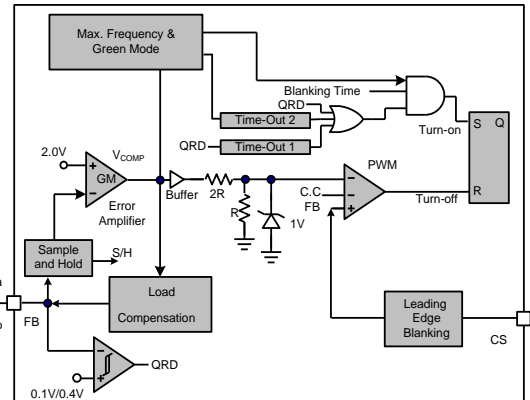

Fig. 20
The LD7513A employs quasi-resonant (QR) switching scheme to switch in valley-mode either in CV or CC operation. This will greatly reduce the switching loss and the ratio dv/dt in the entire operating range for the power supply. Fig. 20 shows the typical QR detection block. The QR detection block will detect auxiliary winding signal to drive BJT as FB pin voltage drops to 0.1V. The QR comparator will not activate if FB pin voltage remains above 0.4V.